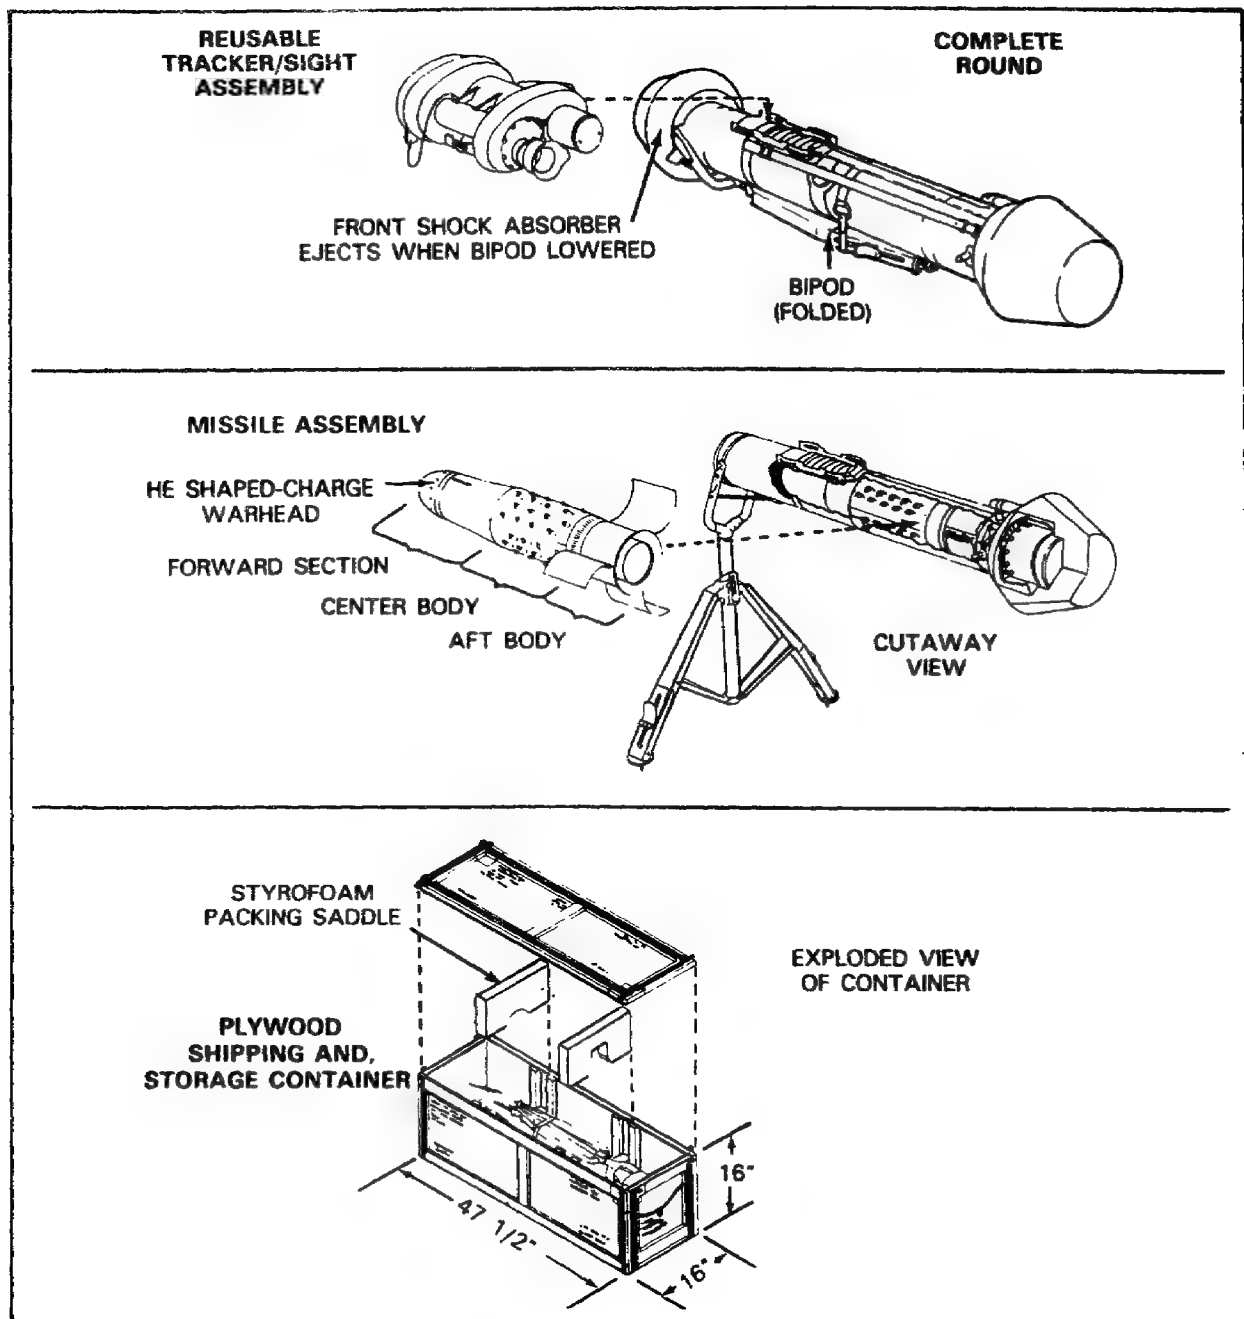

Figure 75. Dragon ATGM Weapon.
**Dragon.** The Dragon (Figure 75) is a short-range medium antitank and assault weapon. A complete round consists of a disposable fiberglass launcher containing a missile. It is shoulder fired. The tracker and sight assembly is carried by the gunner and can be reused. The missile can not be removed from its launch tube.